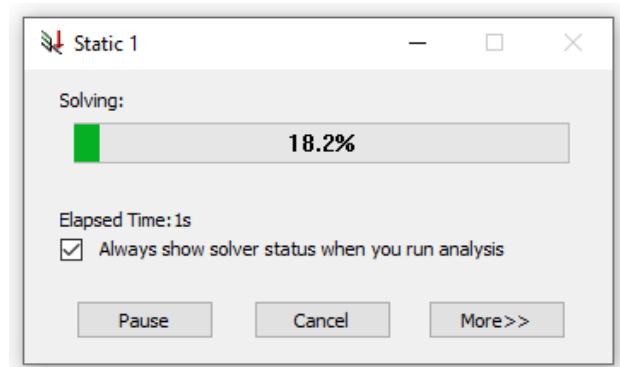

Figure 16 – Solver Status Window
3. solver status window will display the progress. The calculation time depends on the number of mesh elements, the complexity of the problem, and the power of the computer (Figure 16).